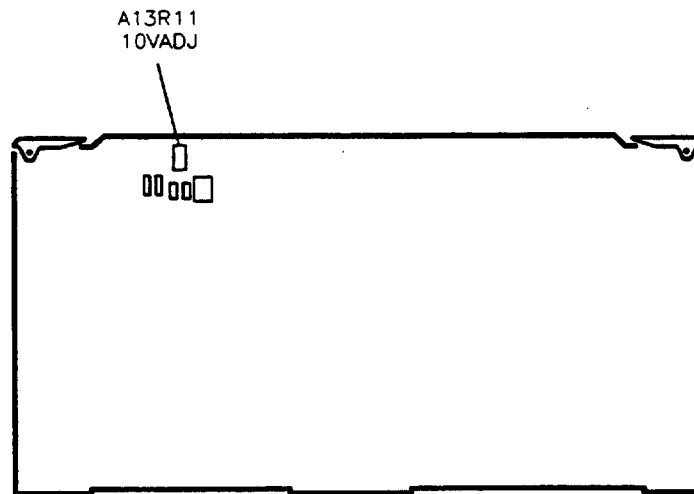

Figure 3-10. YO Driver +10V Reference Adjustment Location
4. Adjust A13R11 (see Figure 3-10) to center the "needle" on the display.